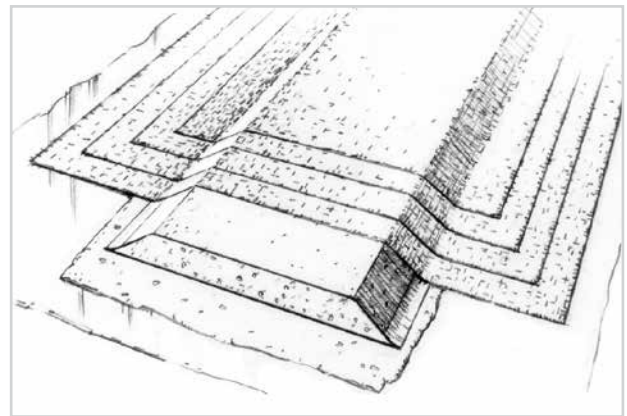

Figure 3-6 *End-grained balsa or high-density foam core material is useful for reinforcing large panel areas.*
3. Prepare the core material and fabric. Cut the core material to size. Round the corners and bevel the edges of the core material to reduce stress concentrations. Cut four or five pieces of fiberglass cloth, each piece an inch or two shorter on each side than the one before. The smallest piece of fabric should overlap the core material by 2" (5 cm) on each side (Figure 3-6). Bond the fiberglass fabric to the core and panel as follows: